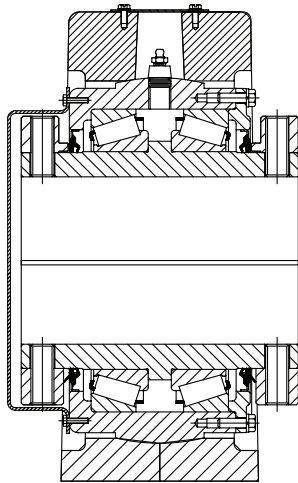

Figure 3 - TAF, Double Interlock, and Type K over 5"
4. For sizes up to five inch, guide the end closure over the collar and into the housing bore (Figure 1 or 2). Hold a piece of wood wide enough to cover the entire end closure face against the face of the end closure. Using a mallet, strike against wood to drive the end into the housing. The end closure is securely mounted when the ridge on the OD of the end closure bottoms against the housing. For Double Interlock, Type K, and TAF over five inch, screws are used to attach the cover. See Figure 3.